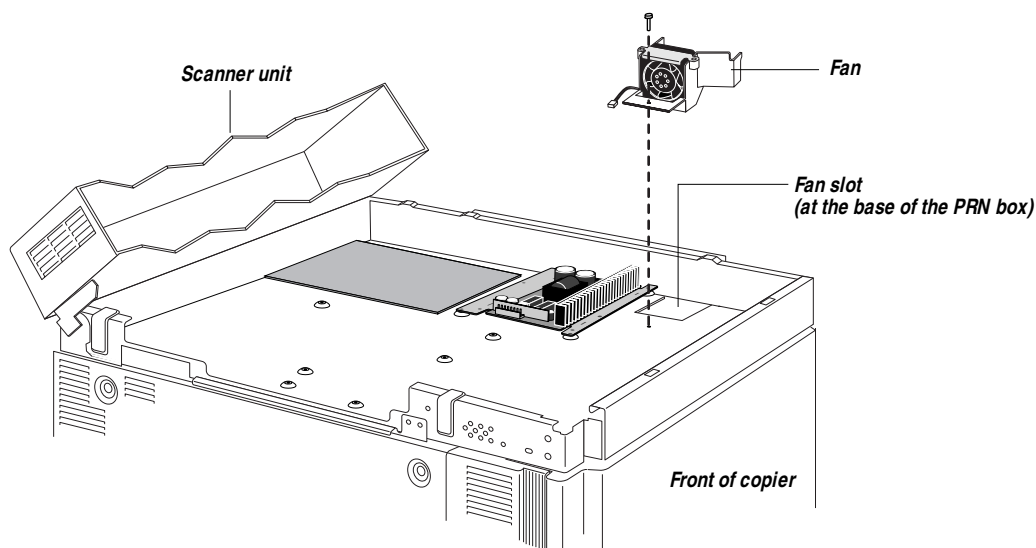

Figure 2-8 Installing the fan
3. **With the fan label facing the edge of the copier, angle the fan so that the bottom of it rests in the slot (see Figure 2-8).**